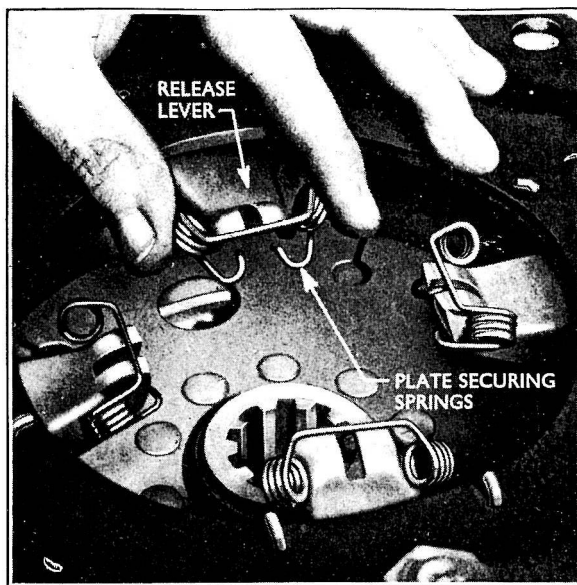

Fig. 11
7. Replace the release lever plate and securing springs (see Fig. 11).